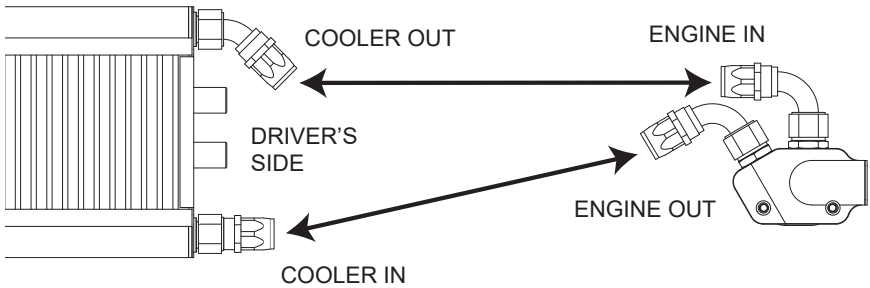

Figure 4 - Oil Line Connection Diagram
4. Route the oil lines between the subframe and engine block, following the same path as the factory oil lines. The two 90° fittings should be on the oil cooler adapter side. The lines will be connected as shown in Figure 4.
8. Connect the oil lines to the oil cooler as shown in Figure 4. DO NOT overtighten.